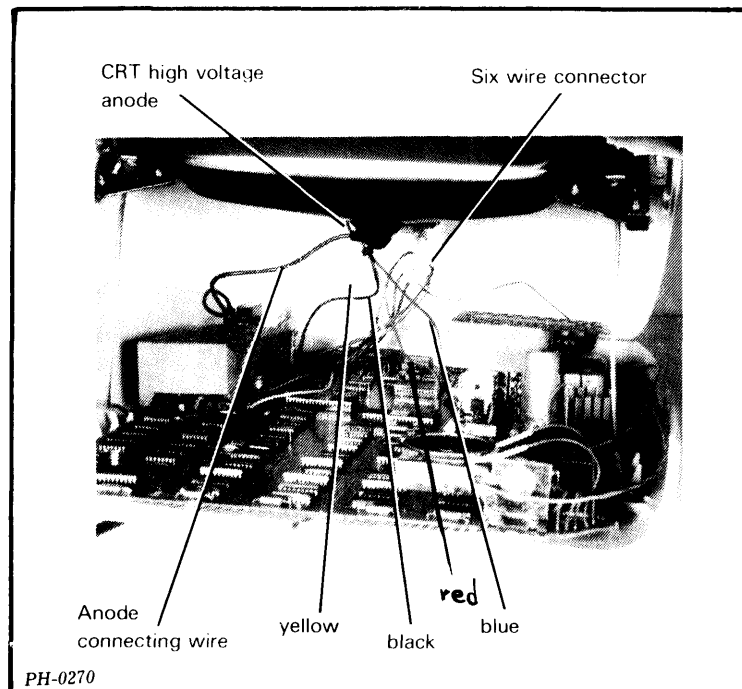

Figure 8.19 CRT/yoke wires
2. Plug the four yoke wires into the circuit board as follows (see figure 8.19):
3. Observing the proper key alignment, plug the six-wire connector from the circuit board onto the rear of the CRT neck (see figure 8.19). The connector will only go on one way, so do not force it.
5. Plug the CRT anode wire into the CRT as follows (see figure 8.19):